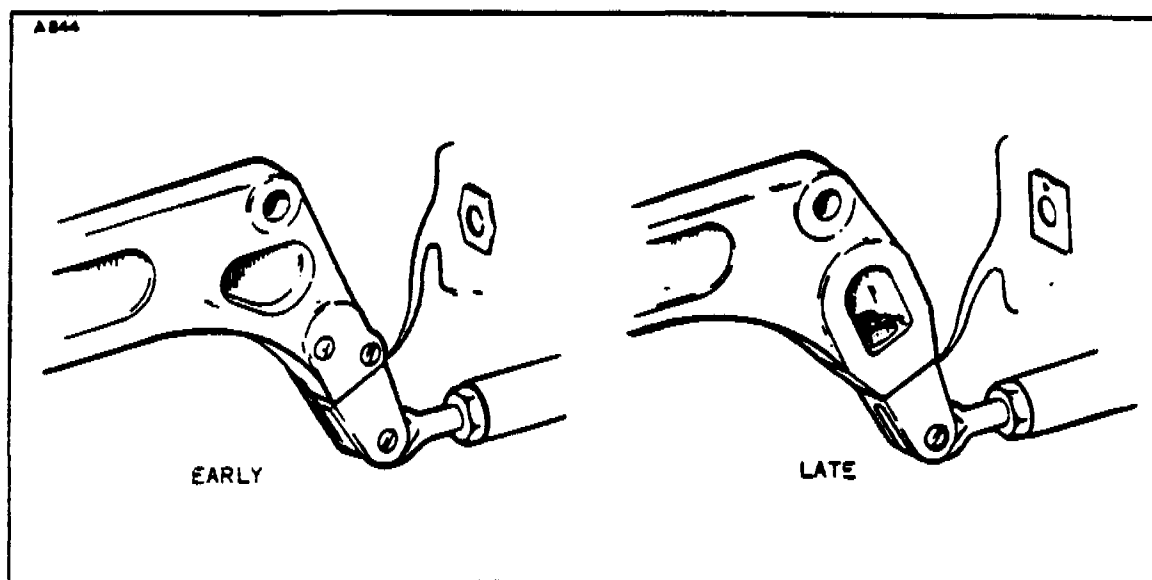

FIGURE 6-15. NOSE GEAR DRAG LINK CLEVIS
- b. On early PA-24-180 and PA-24-250 airplanes, the clevis has a threaded stud which is screwed into the link assembly (refer to Figure 6-15.) A minimum of 1/8 inch and a maximum of 3/8 inch of shims may be installed. Shims are supplied in sizes of .016, 0.32, 0.64 and .125. The clevis torque must be from 13 to 40 foot pounds, properly aligned, with the counter-sunk hole side of the .064 and .125 shims against the radius of the clevis stud.
- c. On late PA-24-180 and PA-24-250, and all PA-24-260 and PA-24-400 airplanes, the clevis has a locking nut applied to the threaded portion of the clevis stud (refer to Figure 6-15). Shims supplied with this clevis are .032 only and a maximum of three may be installed.